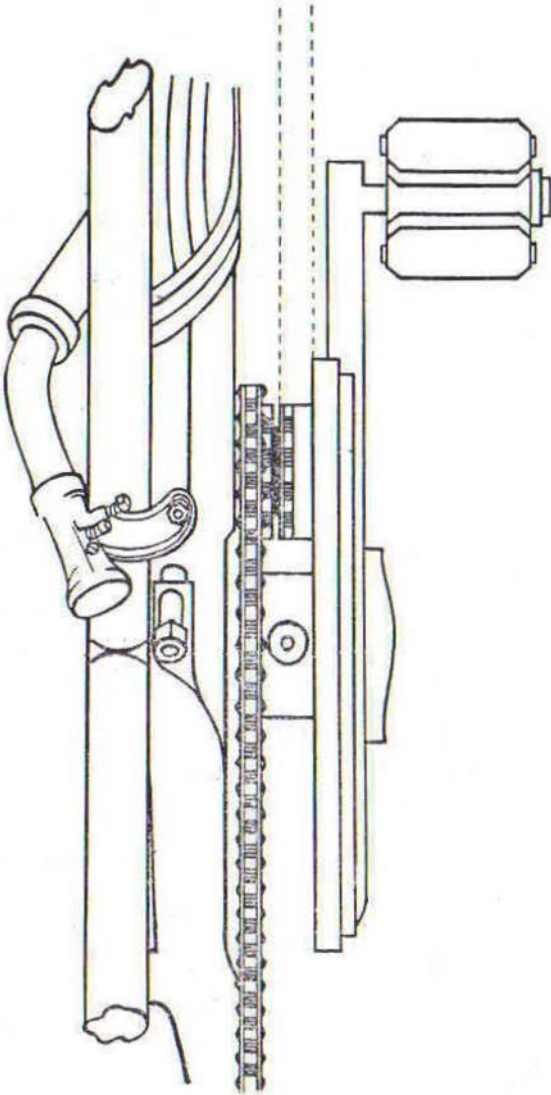
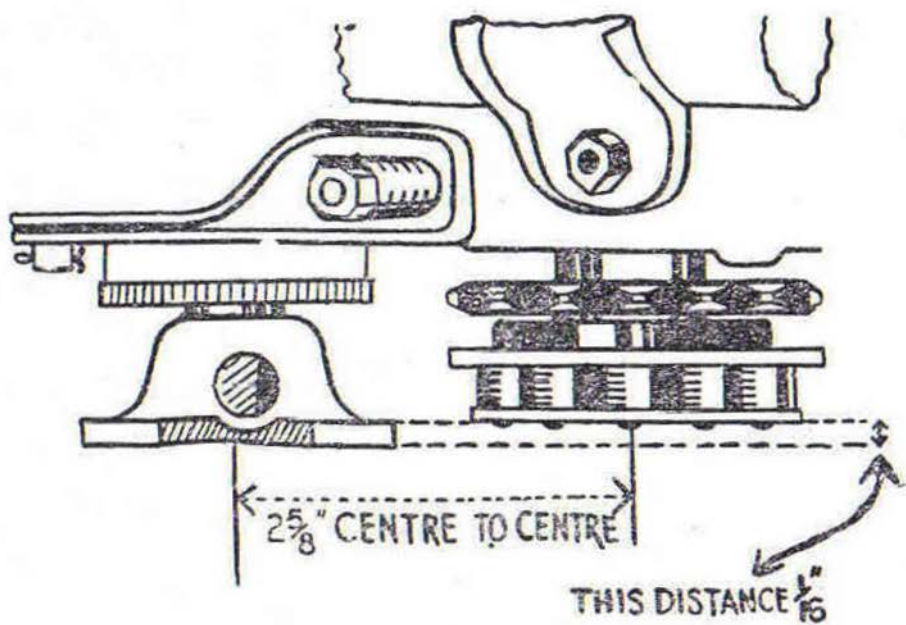
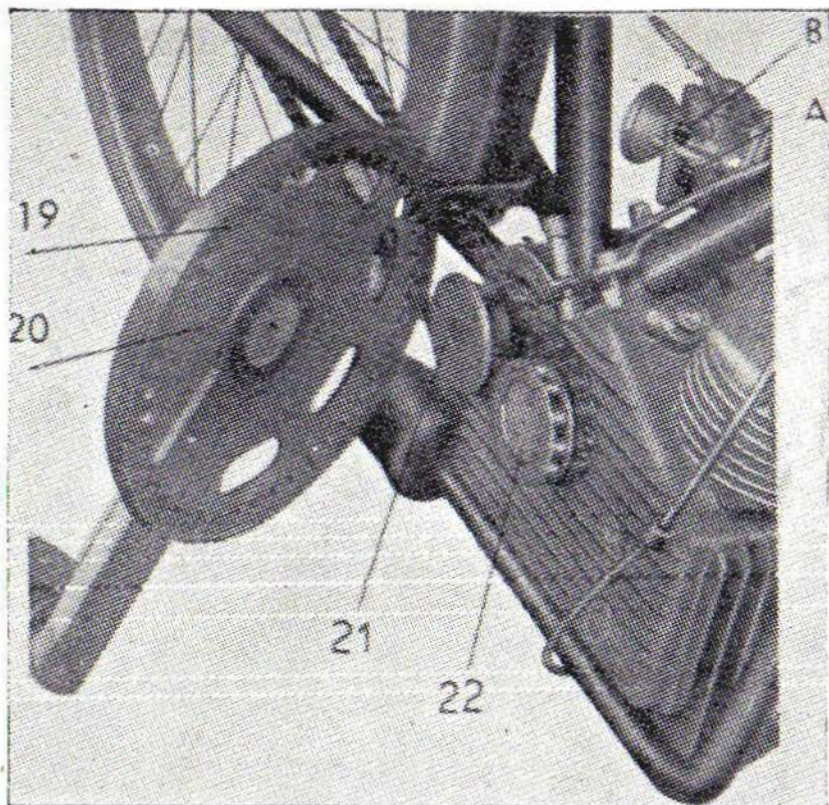

Fig. 4
Fig. 8
Fig. 9
With a total weight of approximately 200 lbs. between the rider and the bicycle, petrol consumption is about 275 miles per gallon at an average speed of 17-18 m.p.h. on level roads. With steady riding on good surfaced level roads over 300 miles per gallon has been obtained on continuous rides of 60-80 miles, at an average speed of 14-16 m.p.h. The carburettor has two adjustment screws, A & B (see Figure 9). The screw A will adjust the ratio of petrol to air for idling mixture, and has been adjusted at the factory for normal running. It is not advisable to alter this adjustment unless definite variations in carburation are encountered, such as might be experienced with different qualities or densities of fuel, tropical or extreme winter climate, a new engine or one in badly worn condition. The B screw is simply a stop to prevent the full closing of the butterfly valve; with this screw the speed of idling can be adjusted.
causing stiffness in pedalling, or will not engage enough, resulting in undue strain and eventual damage to the slip sprocket rollers. It is equally important that the crank support (21) be 1/16" past the line of the slip sprocket, as shown in Fig. 8. By sighting from the top correct alignment can be checked (see Fig. 4.)
Twisted frames or lugs sometimes require uneven packing of the engine so that this will line-up with the chain (see Fig. 4 & 5). As an example, the thicker packing on the right will move the front of the engine to the left, and vice versa. It is seldom necessary to pack unevenly. If additional packing is necessary red fibre or metal, such as brass or copper, should be used.
5. Fitting of crankwheel support (21) and crankwheel (22).
The crankwheel support (21) may now be assembled onto the right end of the "Cucciolo" spindle, making sure to fit the cotter-pin carefully and tightly. The support (21) must be 1/16" past the line of the slip sprocket (22), as shown in Fig. 8, in order that the toothed insert (19) Fig. 9, runs freely and true in the centre of the rollers of the slip sprocket.
Must be made while engine is warm. Turning screw "A" (fig. 9) clockwise will weaken mixture. If idling-speed of engine (in neutral gear) is too fast or too slow, adjust screw "B", which will control opening of main butterfly valve.